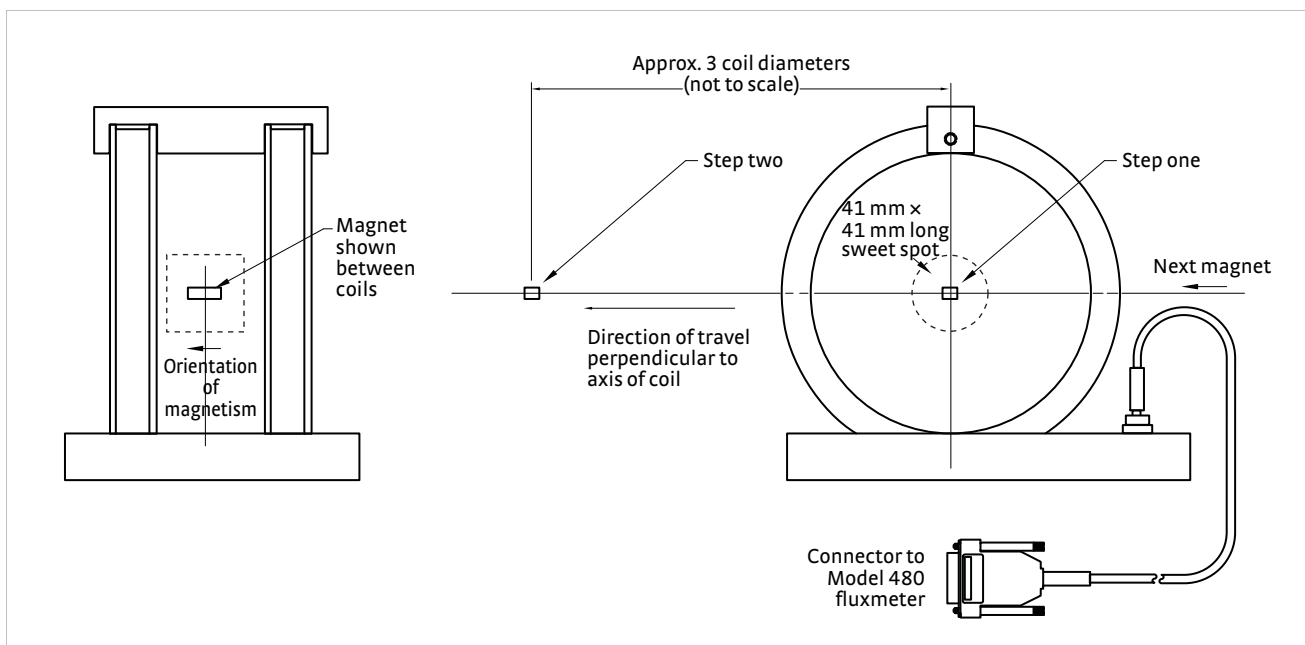

FIGURE 3-1 Automated magnet test
1. Start with the position of the magnet at least three coil diameters away from the center of the coil and to the side of the coil (90° to the Helmholtz coil central axis, shown in FIGURE 3-1).
High speed, automated testing often requires that the magnet under test pass through the coil in a continuous motion, rather than stop, reverse, or rotate. The path can be along the coil central axis or through the sides. Unlike the previously described methods, the moment reading is not retained using the normal reading mode. During travel the reading might start at zero, then go to actual moment value in the Helmholtz coil’s sweet-spot (high uniformity central volume, shown in FIGURE 3-1), and return to near zero as the magnet exits the other side. Two possible ways of making the proper moment measurement are described in section 3.3.5.1 and in section 3.3.5.2.
In this operation, fluxmeter measurement and the motion of magnets on a conveyor belt would be computer controlled. Magnet moment values would be compared to preset, allowable limits stored in a Model 480, and a user's accept/reject action would be taken. See FIGURE 3-1 for an explanation of physical positions as used in the following example. Follow this procedure to perform automated operation with sorting.